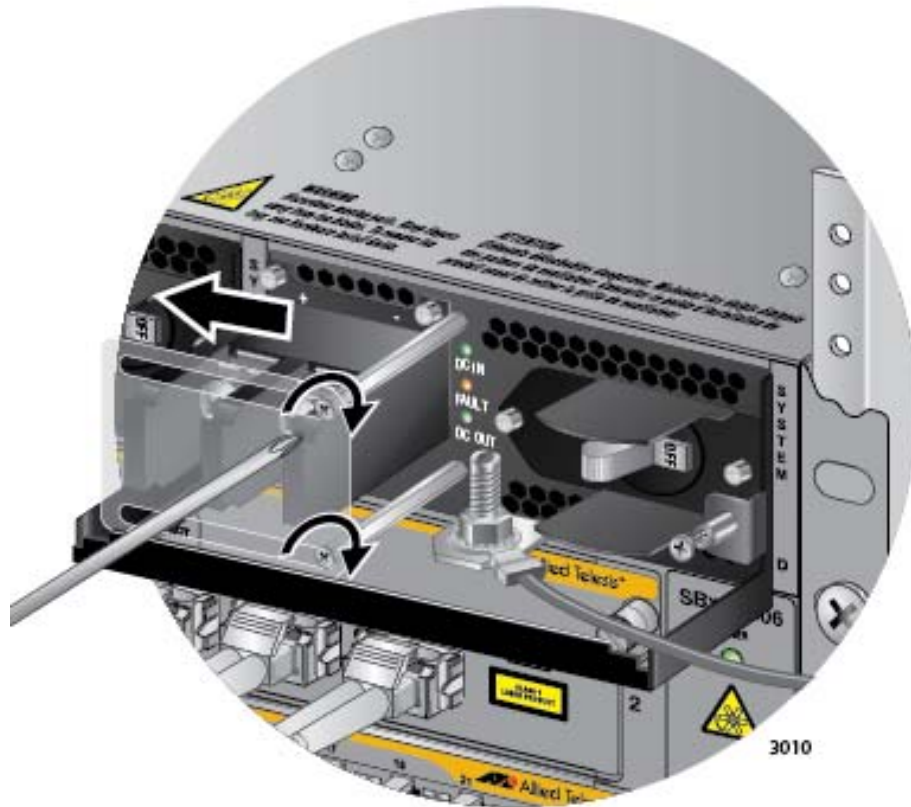

Figure 165. Closing the Plastic Cover
8. Slide the plastic cover to the left and lightly tighten the two screws to secure it in place. Refer to Figure 165 on page 264.